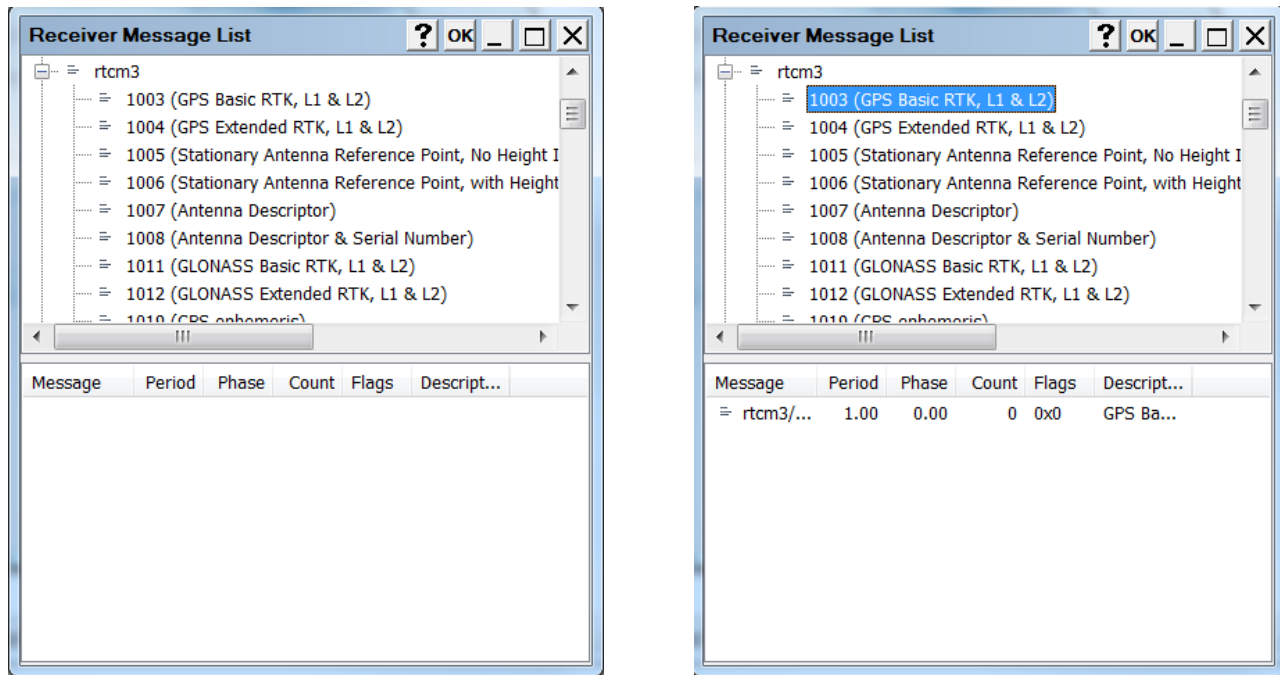

Figure 39: New Serial Port Message Added
3. Click the (+) icon to expand the **rtcm3** list, and select a message you want to add (Figure 39).
4. Double-click the message to add it. The message appears in the bottom list panel. (Figure 39).